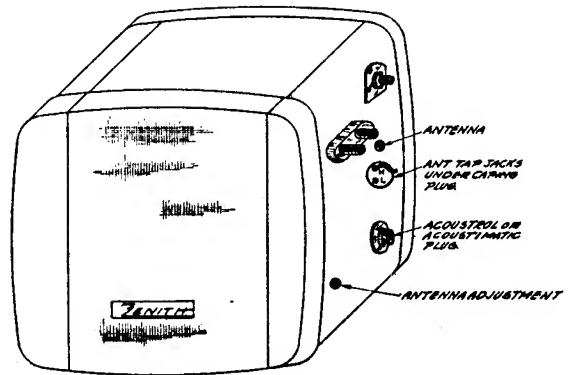

Fig. 8
"L" position, depending on the capacity of the antenna being used for antennas with a capacity in the range of from 100 to 500 mmfd. The "L" connection must be used for low capacity antennas of from 0 to 125 mmfd. Compare this listing with that given under the various antennas, and the proper position will easily be recognized. After selecting the position desired, place the capping plug back over the hole to prevent motor noise from entering into the antenna circuit of the receiver. Connect the antenna proper by means of the Delco-Remy connector shown in Fig. 8.
4. Follow above procedure for buttons 3, 4 and 5 using the ranges shown on Fig. 8.